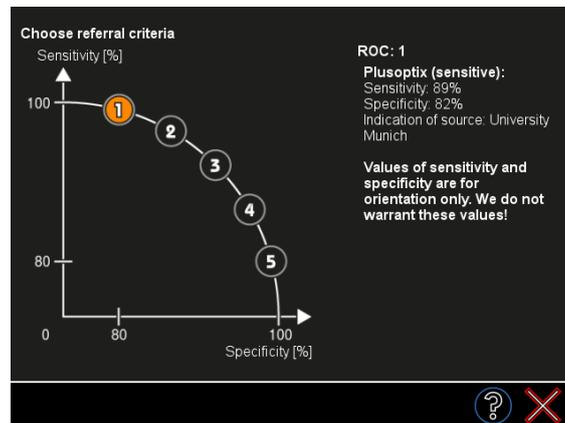

Figure 2: Selecting the referral criteria
Touch the button to choose the referral criteria (2) in the settings. There are five validated groups of referral criteria to choose from (see Figure 2).